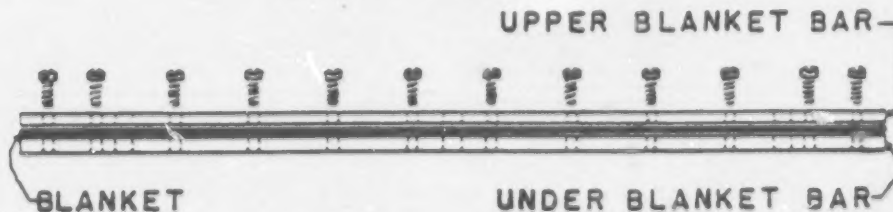

FIGURE 5
(1) New blanket. A new blanket must be thoroughly scrubbed with pumice powder and cleaning solvent to remove the slight glaze caused by oxidation of the rubber.
(2) Punch blanket. If the blanket has not been punched, place a blanket bar across one end of the blanket at right angles to the direction of the arrow on the cloth Demonstrate side of the blanket. The outer edge and the ends of the blanket bar must be even with the upper end and sides of the blanket. Insert a pencil into each hole in the blanket bar and make a circular mark on the rubber blanket. The pencil marks will then correspond exactly with the holes in the blanket bar. The same procedure is used on the other end of the blanket making certain that the second bar is parallel to the first. The blanket bars can then be removed and all of the indicated holes punched in or cut out. The holes must be cut cleanly, because irregular fragments of the rubber may cause the blanket bar bolts to bind. (See figure 5)